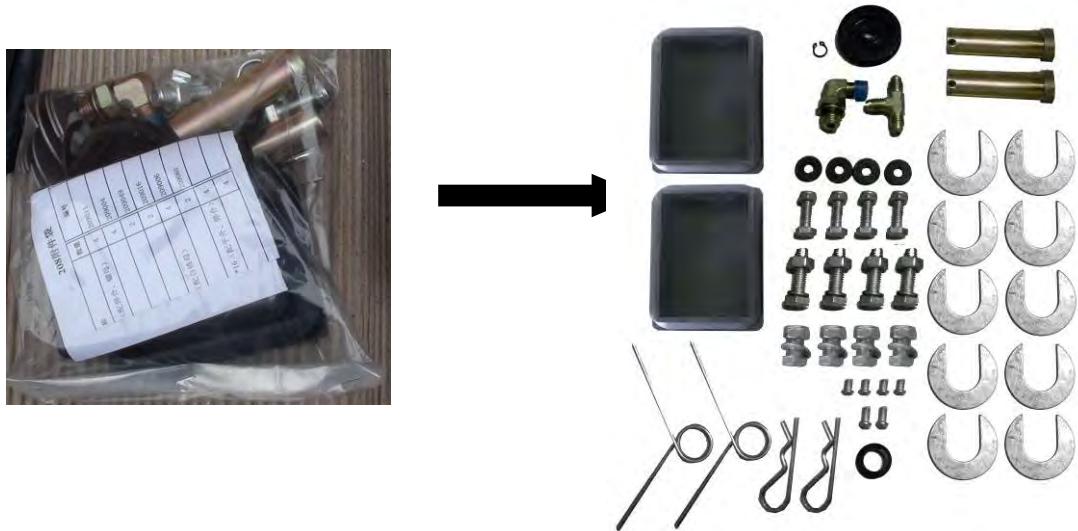

Fig. 8
7. Check the parts of the parts bag according to parts bag list (See Fig. 8).